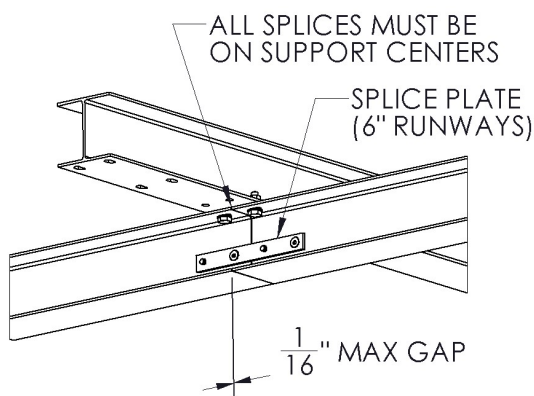

Figure 3a: Splice Assembly 6" Runway Beams
7. Install bolted splice as needed per figures 3a and 3b tighten bolts to 20 ft/ lb.